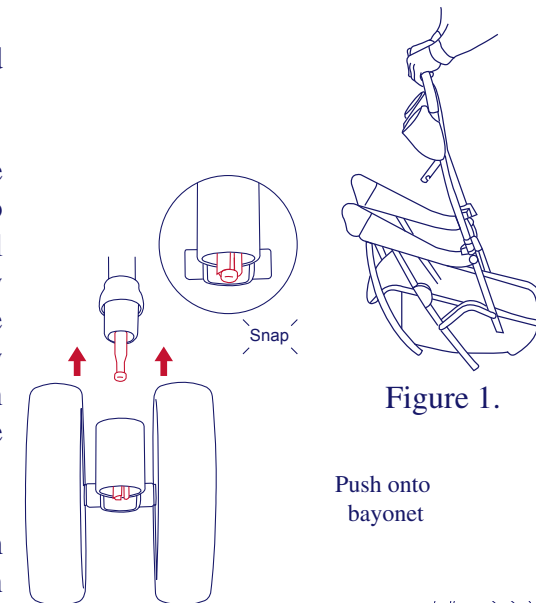
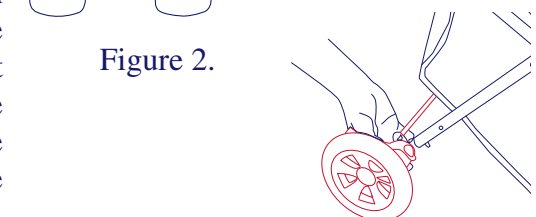

Figure 1.
Figure 2.
- To attach the front wheels, unfold stroller as described in the section following. See figure 1. Lean the stroller backwards so that it rests on the handle and rear frame tubes and the front wheel bayonet are pointing upward. Position the front wheel assembly at the front wheel bayonet such that the swivel assembly will slide onto the front wheel bayonet. Push each front wheel assembly onto the front wheel bayonet until snapped into place. Pull on the wheel assembly to ensure that it is securely attached to the stroller. Please see figure 2.